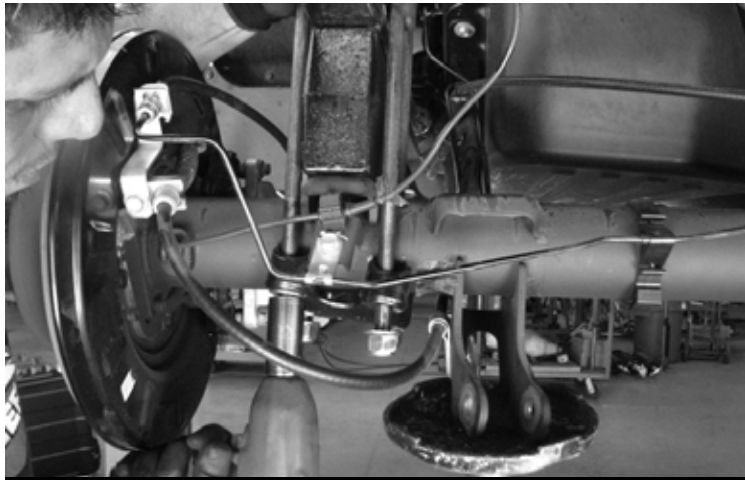

FIGURE 84 - STEP 51
51. Locate FTBK5 (5" Block), FT1500U-3 (Ubolts) and 9/16" Hardware. Install the blocks with the new hardware, the short end of the block should be facing the front of the vehicle. Torque to 90 ft-lbs. **SEE FIGURE 84**